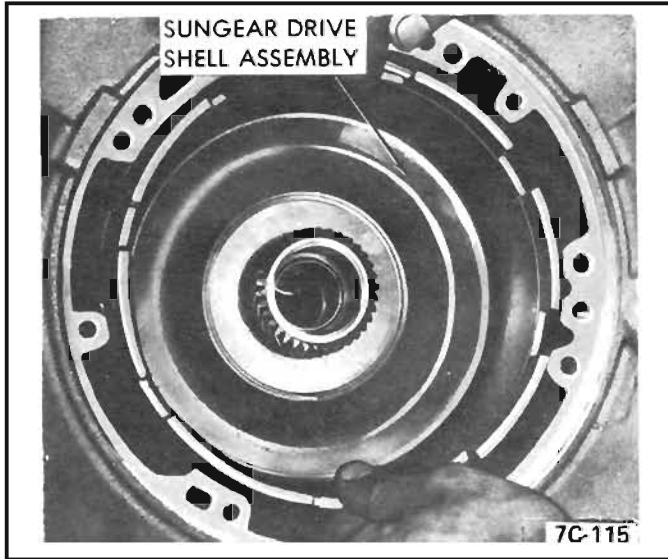

Figure 35 Drive Shell Assembly Removal
1. Remove sun gear drive shell assembly. *See Figure 35.*